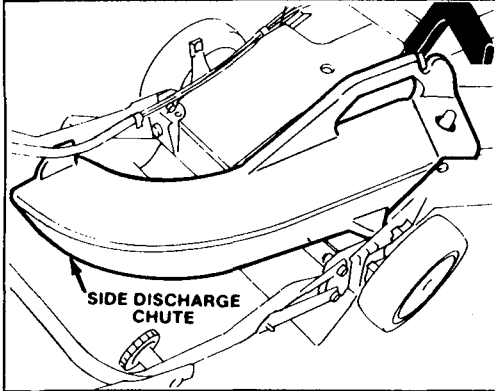

Figure 32
**1. Side Discharge Kit, Model No. 59108**—Installs in seconds. Rear mounted in place of the grass bag or Recycler plug. Disperses clippings while trimming on both sides (Fig. 32).